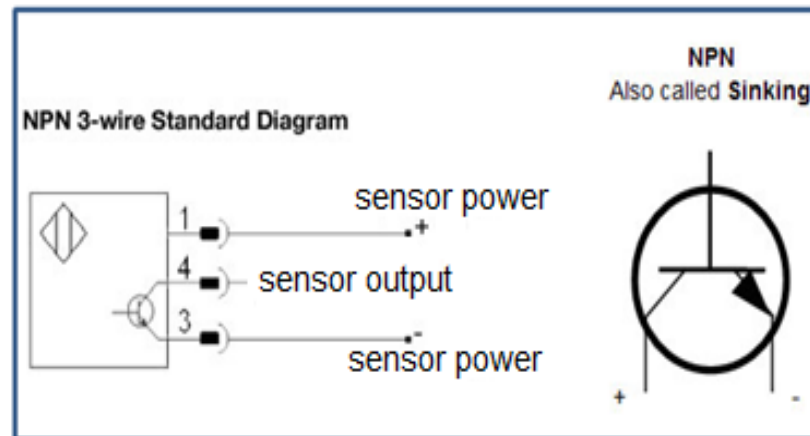

Figure 7: Sinking-Output (NPN) Switch
- Sinking-output (NPN) sensors Figure 7